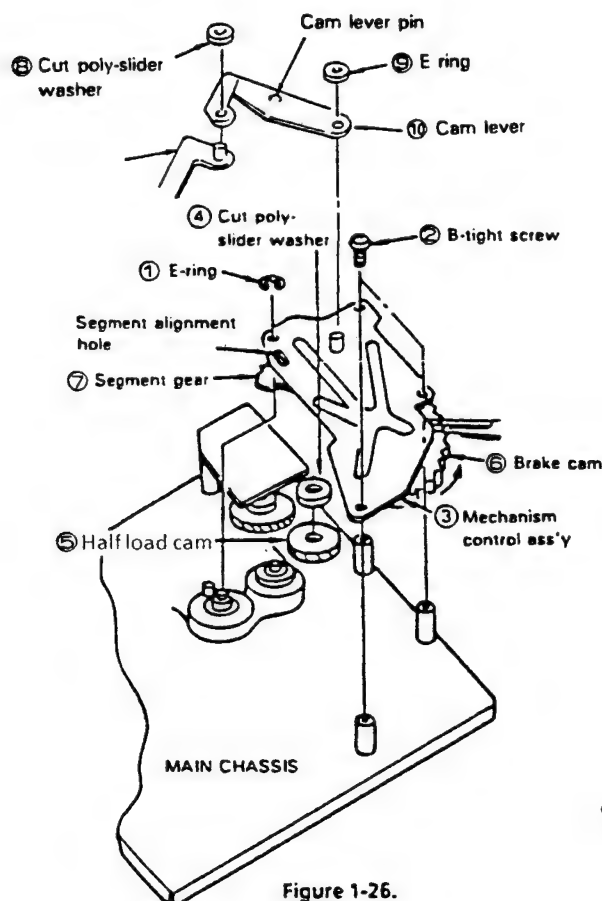

Figure 1-26.
- **Removal (Fig. 1-26)**
2. Remove the cut poly-slider washer ⑧, E-ring ⑨ and cam lever ⑩.
3. Remove the E-ring ①.
4. Remove the three screws ② (LX-HZ3027GEFD).
5. Remove the mechanism control assembly ③.
- **Installation (Fig. 1-26)**
1. Remove the cut poly-slider washer ④.
2. Remove the half load cam ⑤.
3. Adjust the position of the shifter assembly (A) 11 so that the alignment hole ① of the chassis is aligned with the alignment holes of the shifter assembly and brake drive lever 13. (Remove the main brake spring 14 for easier positioning.)
4. Remove the tension arm spring, and fully turn loading gears (A) ⑧ and (B) 10 in the direction indicated by the arrow ⑥, to get the mechanism in the unloading mode.
5. Turn the brake cam ⑥ of the mechanism control assembly in the direction indicated by the arrow until the alignment hole ⑥ of the segment gear is at the center of the segment alignment hole for the auxiliary angle.
6. Attach the mechanism control assembly ③ to the main chassis. This can be done easily if the shifter assembly (A) 11 is moved to the left and right.
7. Secure the three screws ②.
8. Put the E-ring ① on.
10. Install the half load cam ⑤ (See page 19).